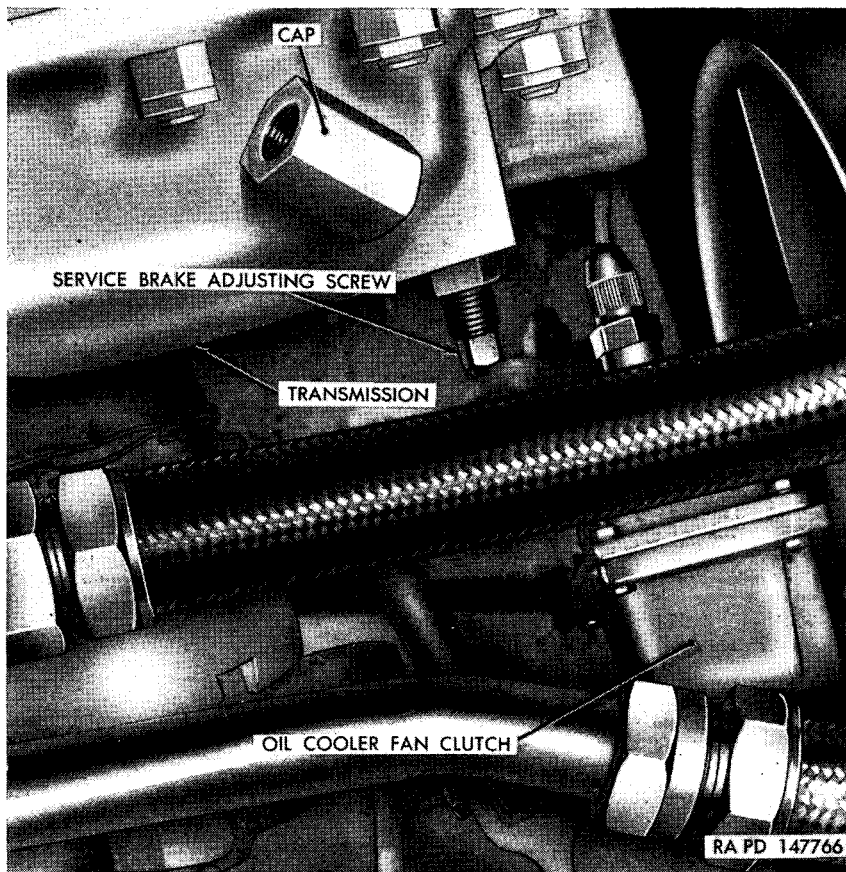
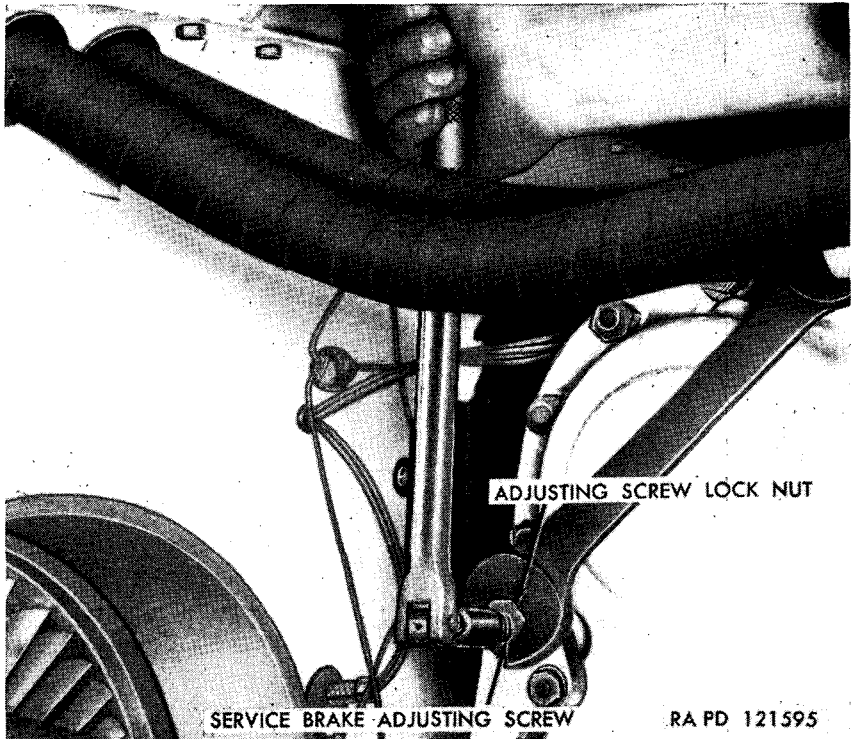

Figure 280. Service brake adjusting screw cap—removed.
Figure 281. Adjusting service brakes.
(1) *General.* A choice of two methods of brake check and adjustment are available ((2) below). Adjustment by either method is effected by shifting the position of the stationary cam ring of the disk-type brakes. A service brake adjusting screw (fig. 280) (with a worm thread on internal end) projects through each end cover of the transmission and provides an external means of adjusting brake clearance. The screw is covered by a cap (fig. 280). Turning the service brake
adjusting screw (fig. 281) actuates an internal worm, which causes rotation of the stationary cam ring.
parking brake (par. 13) if it is engaged. Remove engine compartment left and right rear grille doors (fig. 101). Remove the cap from the service brake adjusting screw (fig. 280) and loosen the lock nut. Turn the adjusting screw (fig. 281), so that the brake linkage rod travel is between $1\frac{3}{16}$ and $1\frac{27}{32}$ inches from the released to the fully applied positions of the service brake pedal ((2) (a) above). To tighten the brakes, turn the right service brake adjusting screw counterclockwise and turn the left service
After final adjustment, lock the brake adjusting screw by tightening the adjusting screw lock nut (fig. 281), and install the brake adjusting screw cap. Install the two brake linkage access hole covers (fig. 285). Install the engine compartment left and right rear grille doors (fig. 101).
- (b) Alternate method of service brake adjustment is the same on both right and left sides of transmission. Release the parking brake (par. 13) if it is engaged. Remove engine compartment left and right rear grille doors (fig. 101). Remove the cap from the service brake adjusting screw (fig. 280) and loosen the lock nut. Adjust (fig. 281) in the direction of the arrow, adjacent to each adjusting screw, until the "A" lines up with base line. Lock brake adjusting screw with lock nut and install cap (fig. 280). Install engine compartment right and left rear grille doors (fig. 101). Install right and left side access doors on rear of hull (fig. 285).